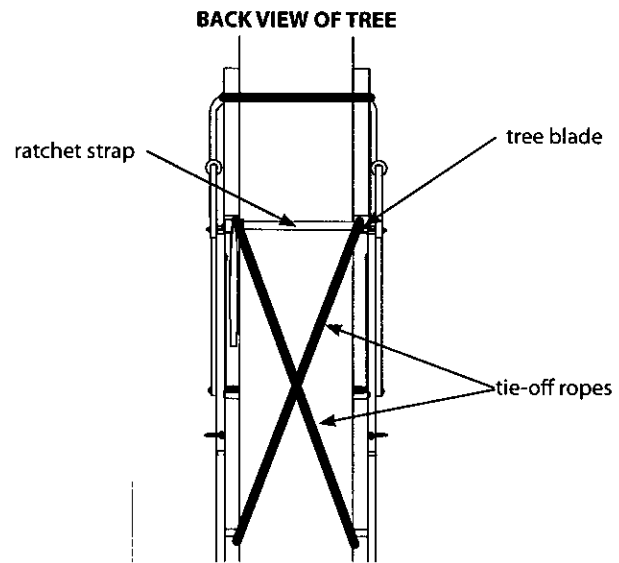

Figure 4a: Applies to RE607
e. (FOR ALL LADDERS) Wrap the previously attached tie-off ropes hanging down from platform, around the back side of tree in opposite directions of each other. Pull the ropes snug and tie them to the ladder at the stabilizer bar height location. This ground level ladder-to-tree attachment will prevent the ladder from pulling away from the tree while ascending to top for final ratchet strap attachment. The same holds true when ladder removal is necessary. **SEE FIGURE 4a and 4b. Be absolutely sure the tree blade(s) at the top and the stabilizer bar are all contacting tree.**